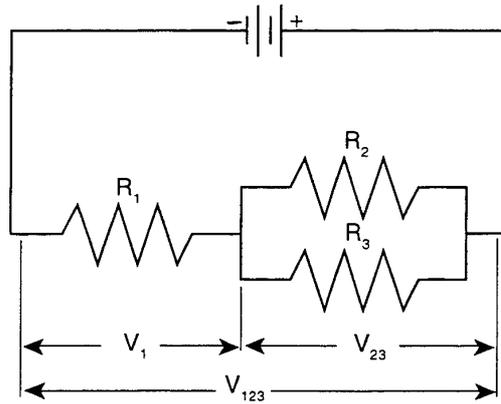

Figure 14.16: Voltage Measurements in Combination Circuit
4. Now connect the combination circuit as shown in Figure 14.16. Measure the voltages in the figure. Record them in Table 14.7 and compare with calculated values.